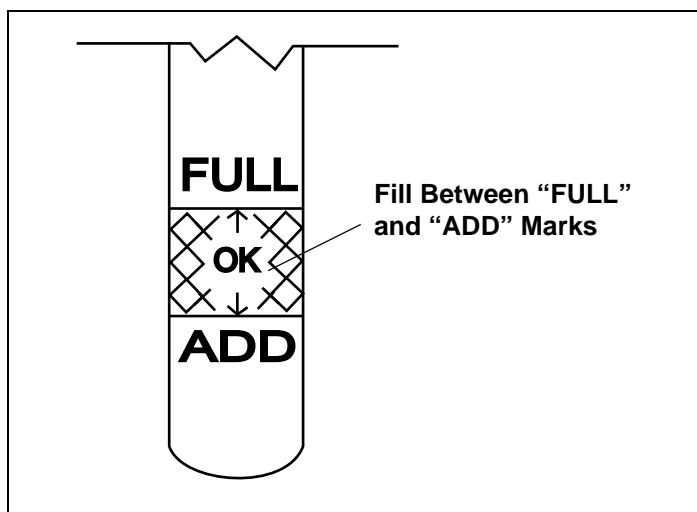

Figure 6. Engine Oil Level
- Keep oil level between "FULL" and "ADD" marks on dipstick. See Figure 6.
4. Unscrew and remove oil fill cap from oil filler tube. Note oil level. If oil reading on dipstick is below "ADD" mark, slowly add oil to reach "FULL" level. See Figure 6 on page 4. Afterward, continue reading instructions below.